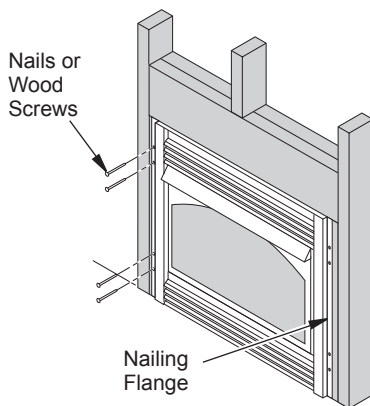

Figure 10 - Attaching Firebox to Wall Studs
5. Attach firebox to wall studs using nails or wood screws through holes in nailing flange (see Figure 10).